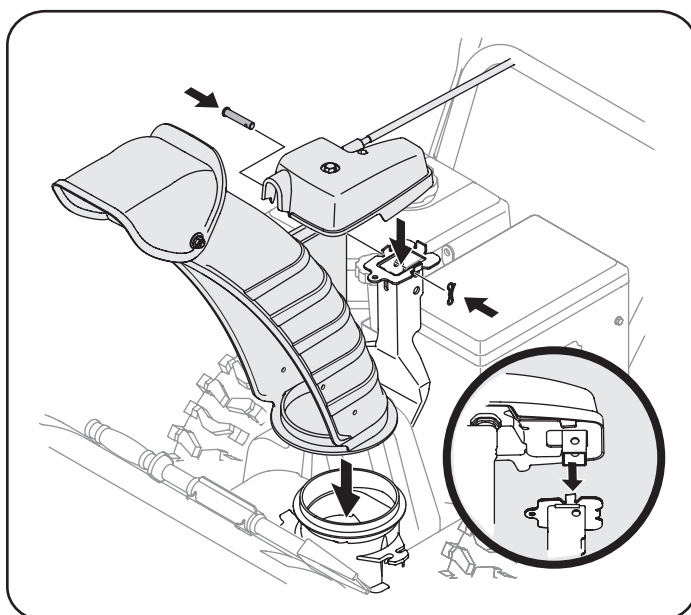

Figure 5
2. Place chute onto chute base and secure chute control head to chute support bracket with clevis pin and cotter pin removed in Step 5. See Figure 5.